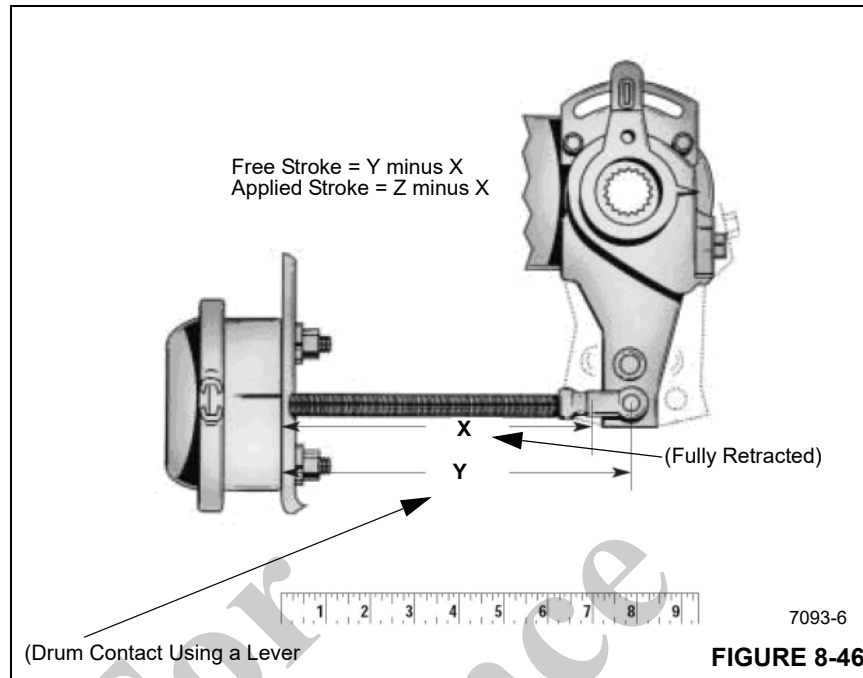
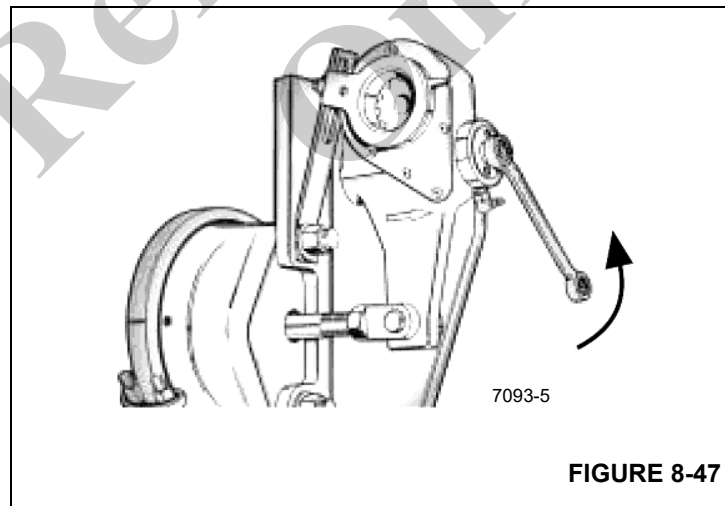

FIGURE 8-46
FIGURE 8-47
4. Measure the distance from the center of the large clevis to the air chamber mounting face with the brake fully released. This is dimension "X" in Figure 8-46
5. Using a pry bar, move the slack adjuster so that the linings contact the drum. Measure the distance between the same points as in step 4. This dimension is "Y" in (Figure 8-46).
7. Rotate the adjusting hex approximately 1/8 turn in the direction required and re-measure the stroke. Continue this process until the stroke is within limits. A minimum of 17.6 Nm (13 lb-ft) of torque is required to turn the hex and overcome the internal clutch. A ratcheting noise will be heard. Do not use an impact wrench or internal damage will occur (Figure 8-47).
8. With brakes released, check installation indicator (Figure 8-46) and (Figure 8-47) to determine proper adjustment.
9. If installation indicator is not positioned properly, refer to (Figure 8-47). Loosen fastener holding indicator to anchor bracket, rotate indicator as required and re-tighten fastener.